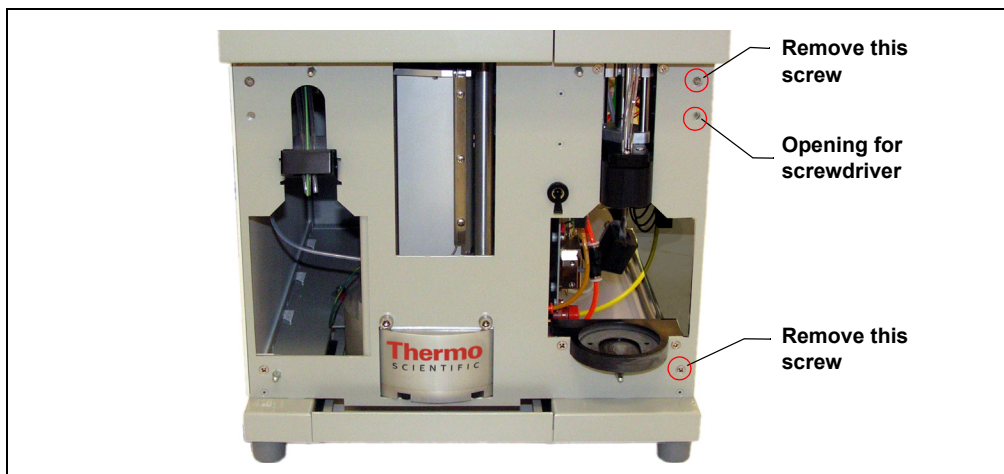

Figure 5-6. Inner Front Panel
- Using a #2 Phillips screwdriver, remove the two screws on the right side of the inner front panel. One screw is at the top right corner; the other is at the bottom right corner (see Figure 5-6).
- Insert a screwdriver into the opening located beneath the top screw hole (see Figure 5-6). Push the screwdriver in until the right-side panel slides back about 1/2 inch. **To prevent scratches or other damage to the panel, do not let the panel fall onto the workbench.**